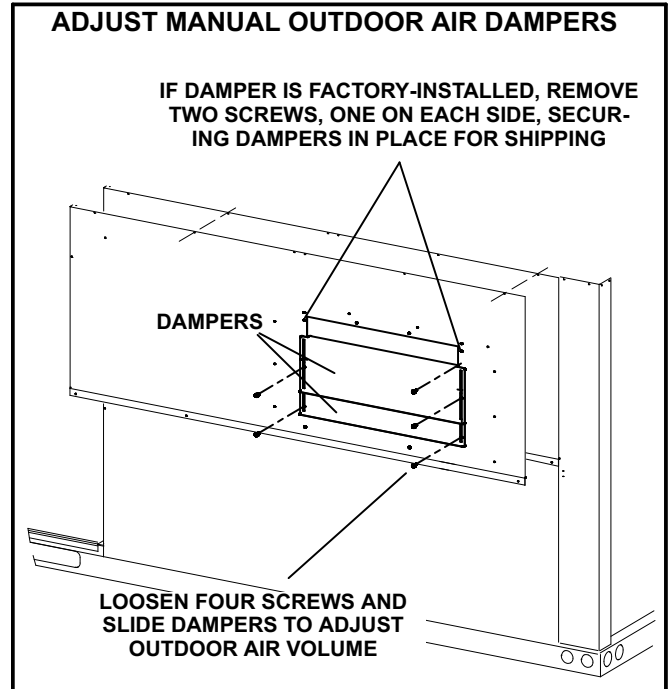

FIGURE 9
Remove two screws securing dampers in place for shipping. See figure 9.
- 6- To adjust manual damper outdoor air amount, loosen the slots screws and slide dampers to the desired position. Tighten the screws to secure dampers in place. See figure 9.
- 9- Insert the second filter into the bottom filter bracket. Install the longer front filter bracket to support the front of filter. Secure using three screws. See figure 9 and 13.